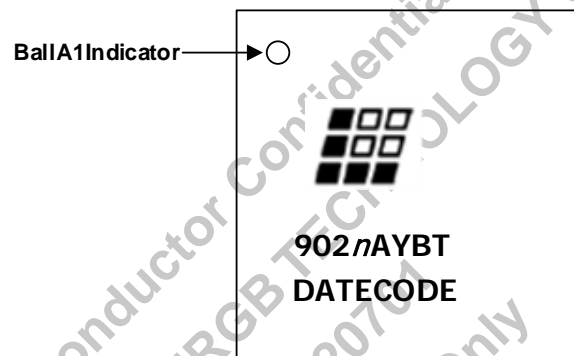

Figure 8.7. Alternate Topside Marking (SiI902nAYBT)
- Figure 8.7. Alternate Topside Marking \(Sil902nAYBT\) added